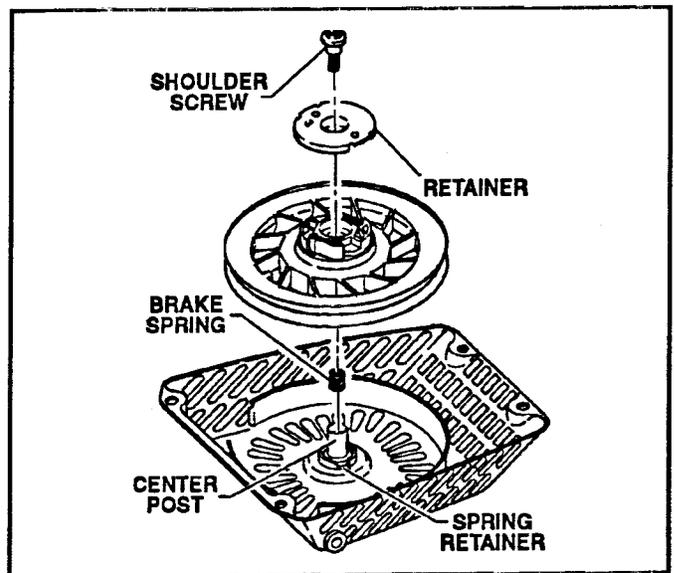

Figure 30
4. Install the friction disc retainer and retaining screw. See Figure 30.